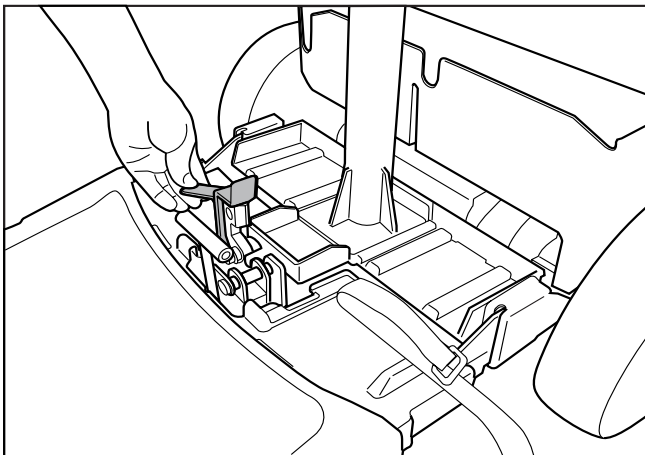
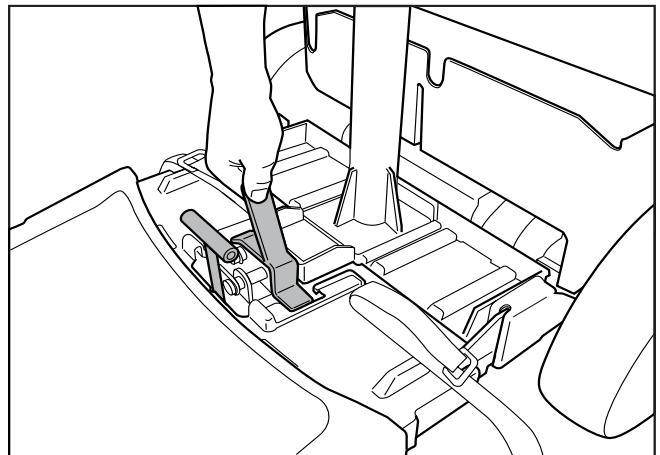

Fig. 26
Fig. 27
2. Now swing the latch into the locked position. You will hear and feel a positive snap when the latch engages. (Fig. 26 and Fig. 27)